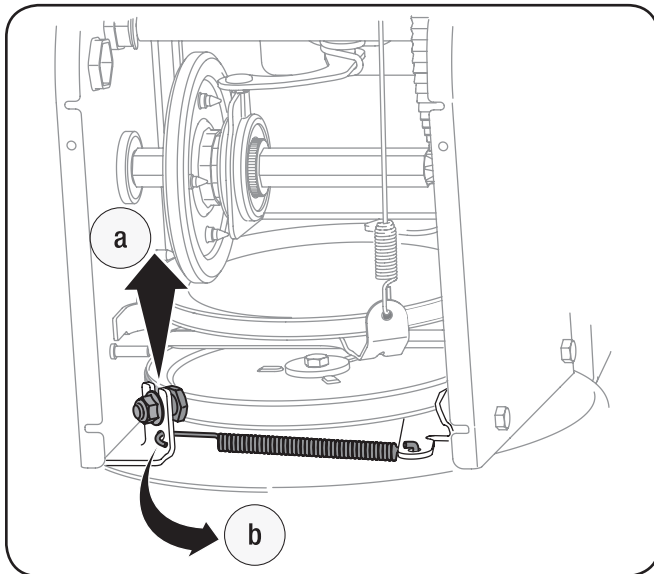

Figure 7-5
7. Remove the belt as follows. See Fig. 7-5.